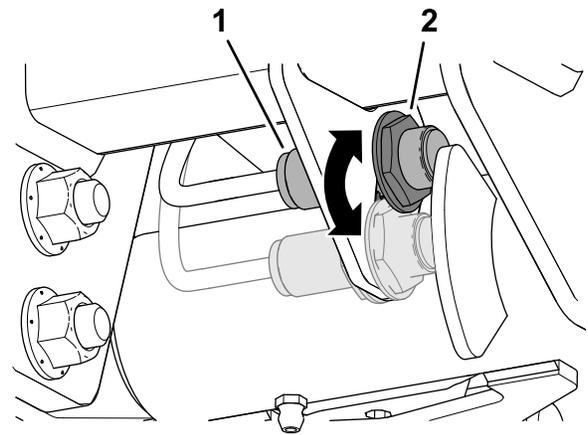

Figure 53
3. Loosen the jam nut that secures lift-arm switch to the switch plate (Figure 53).